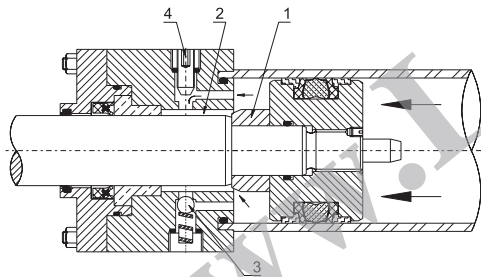

FIGURE 1 : CUSHION IN
Fig. 1 : As the cushion plunger (1) enters the cushion cavity (2) the exhaust fluid is trapped creating back pressure against piston assembly. This back pressure decelerates the movement of piston thus reducing pounding of the piston against head or cap. The degree of cushioning can be obtained as desired by adjusting the screw (4).